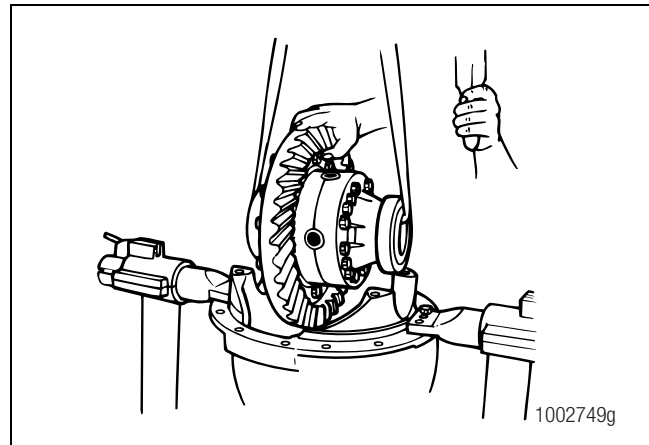

Figure 3.45
7. Use an appropriate lifting device to remove the main differential case and ring gear assembly from the carrier. Figure 3.45.